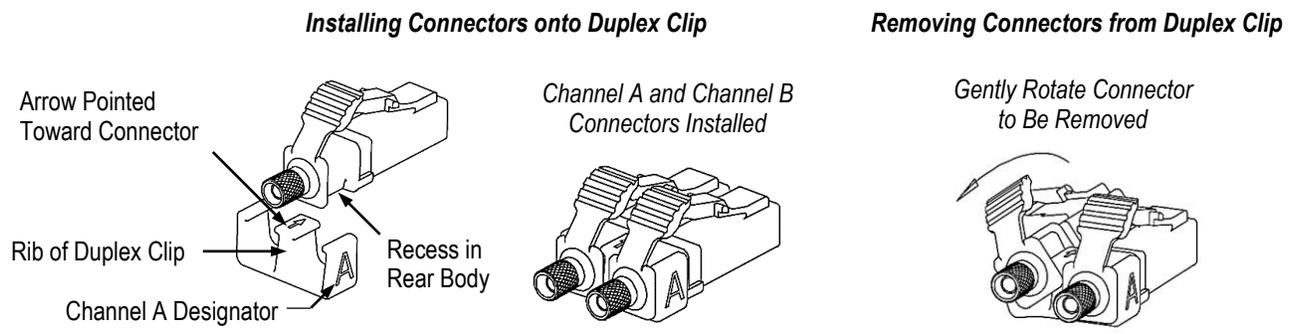

Figure 8
- Center the rear body of the connector over the cavity of the duplex clip as shown in Figure 8, and using a biasing force, insert the connector into the cavity. Correct placement is denoted by an audible “click.”
For correct installation, the arrow on the duplex clip should point toward the connector, and the rib of the duplex clip must align with the recess in the rear body of the connector. Refer to Figure 8.
If necessary (for example, to inspect, insert into a photo-detector adapter, or correct a polarity error), remove the duplex clip by holding either the connector that will not be removed or the duplex clip, grip the connector to be removed, and gently rotate the connector until it snaps out of the duplex clip. See Figure 8.